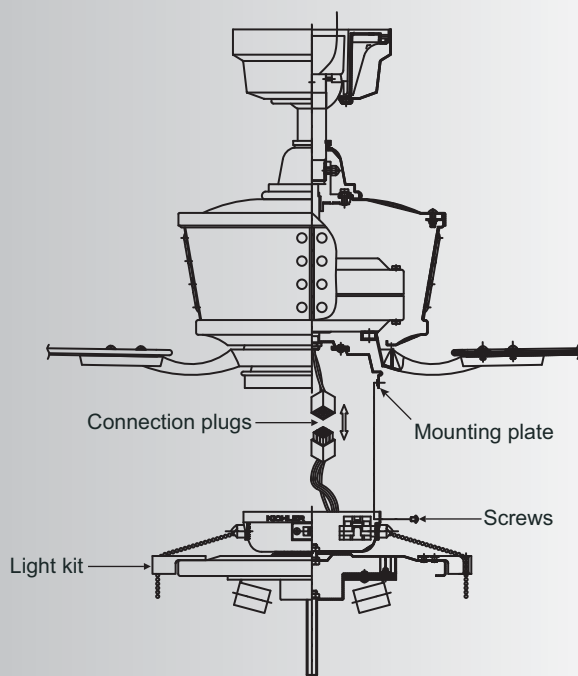

Fig. 17
Step 2. Raise and hold the light kit assembly close to the mounting plate. Push the nine pin square wire connectors together. One from the fan and one from the light kit assembly. (Fig. 17)
Step 3. Tuck the connections neatly into the switch housing and attach the light kit assembly to the ceiling fan. Place the key hole slots on the top edge of the switch housing over the mounting screw heads on the mounting plate. Turn the switch housing until the screw heads are at the narrow end of the key hole slots. (Fig.17) Tighten all of the screws.